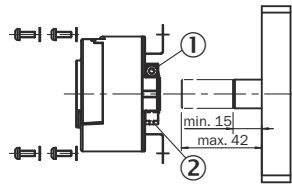

Figure 4: Installation blind hollow shaft
- ▶ Loosen the TORX screw (1) on the clamping ring (2) with a TORX wrench T10.
- ▶ Take note of the installation (figure 4).
- ▶ Fix the stator coupling (3) with 4 M3 screws and washers (4).
- ▶ Firmly tighten the TORX screw (1) on the clamping ring (2), **tightening torque 1.1 Nm.**